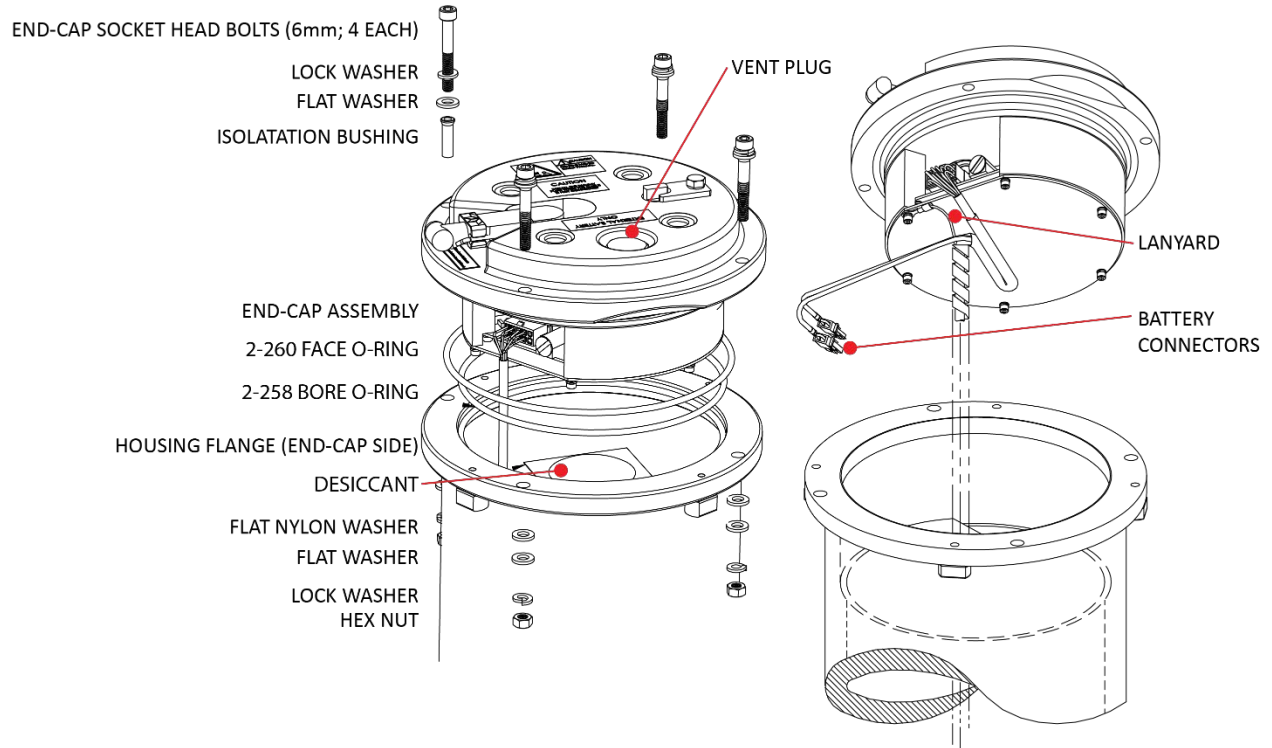

Figure 35. End-Cap Mounting Hardware
7. Examine the end-cap assembly nuts, bolts, and washers (6 mm) for corrosion; replace if necessary. Figure 35, page 72 shows the assembly order of the end-cap mounting hardware. *All* the hardware items are needed to seal the Long Ranger / QuarterMaster properly.